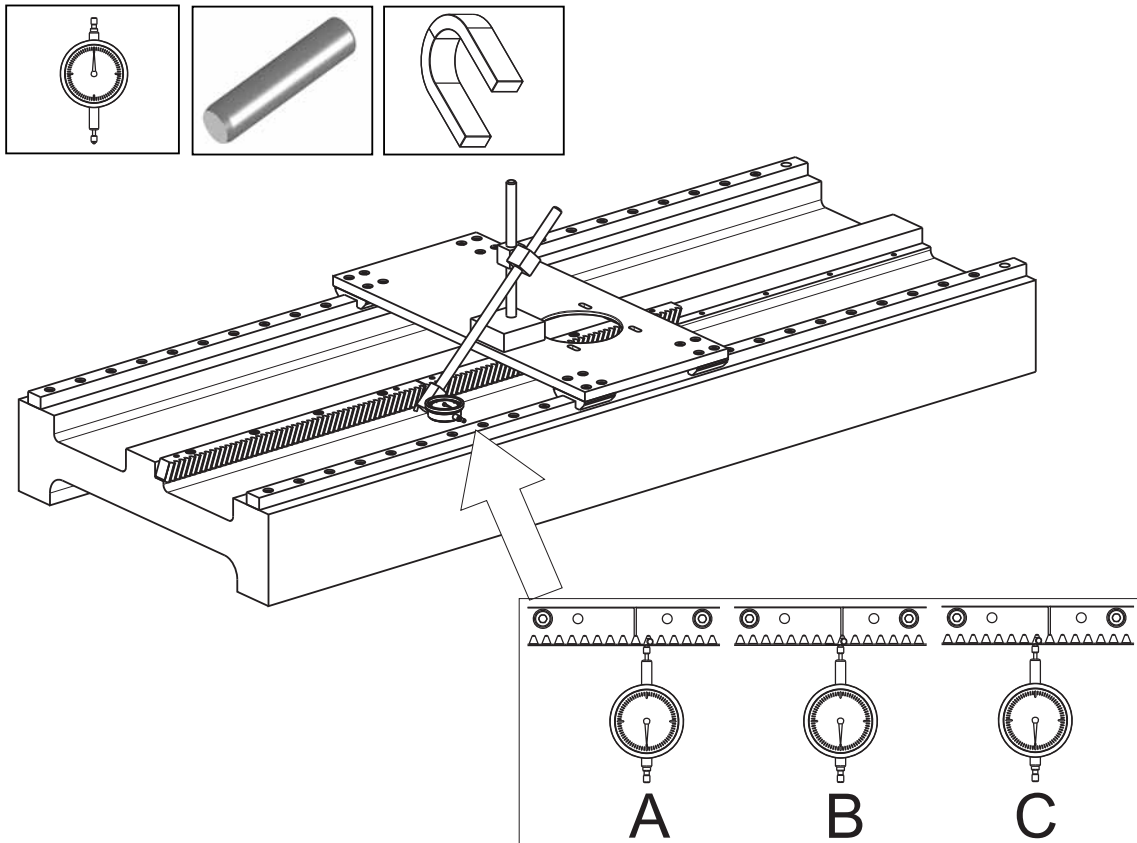

Fig. 6.10
- ➔ Place the needle roller in the joint (B) and in the gearing left (A) and right (C) of it (see Fig. 6.10) and measure the respective height deviance.
- ➔ The permitted height deviance from rack to rack may be up to about 30 µm. The joint (B) should be between the highest and the lowest measure (A and C) of the rack.